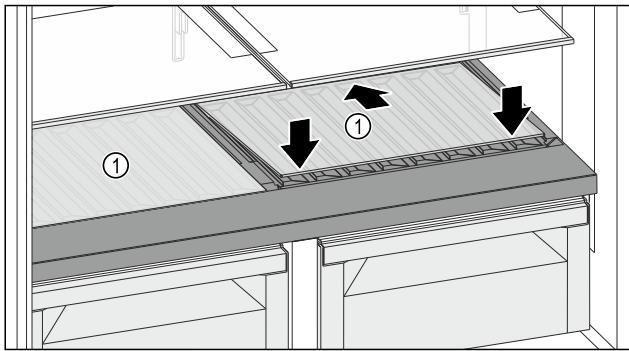

Fig. 132
- ▶ Place the glass shelf Fig. 132 (1) at an angle, sloping it downwards and backwards.
- ▶ Lower the glass shelf Fig. 132 (1) at the front.